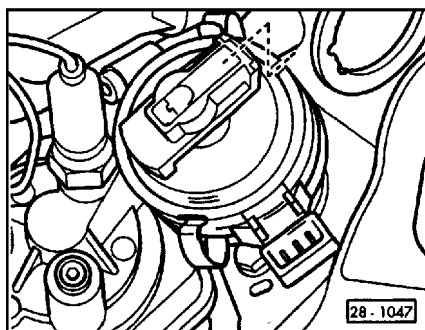
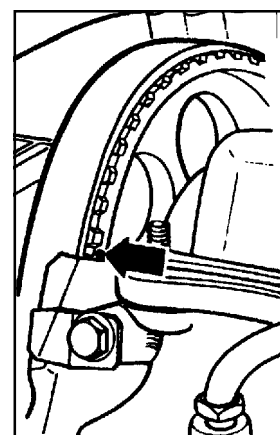
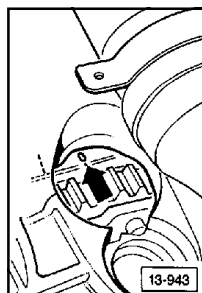

fig. 2
fig. 3
fig. 4
2. Move camshaft sprocket to cylinder number one TDC mark by turning the crankshaft clockwise with a 19mm socket until the dot on the camshaft pulley lines up with the upper edge of the camshaft drive belt inner cover (fig 3.) Check TDC by removing the distributor cap and making sure that the rotor is lined up with the notch on the distributor (fig 2.) The flywheel should also be at TDC (fig 4.) If these marks do not line up, you will need to continue to rotate the crankshaft until they do.
- 7.** Using a special spanner wrench (AST P/N 10.012.86400 or equiv.), tighten the drive belt by rotating the tension pulley in the direction of the arrow (fig. 2). The belt should feel tight when twisted 90 degrees with the thumb and forefinger; halfway between the camshaft and intermediate shaft pulleys. Tighten the pulley retaining nut to 33 ft/lb.